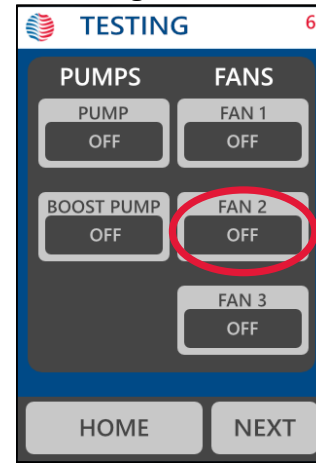

Figure 15
3. Under the "Fans" testing section, locate the fan 2 output (Figure 15).